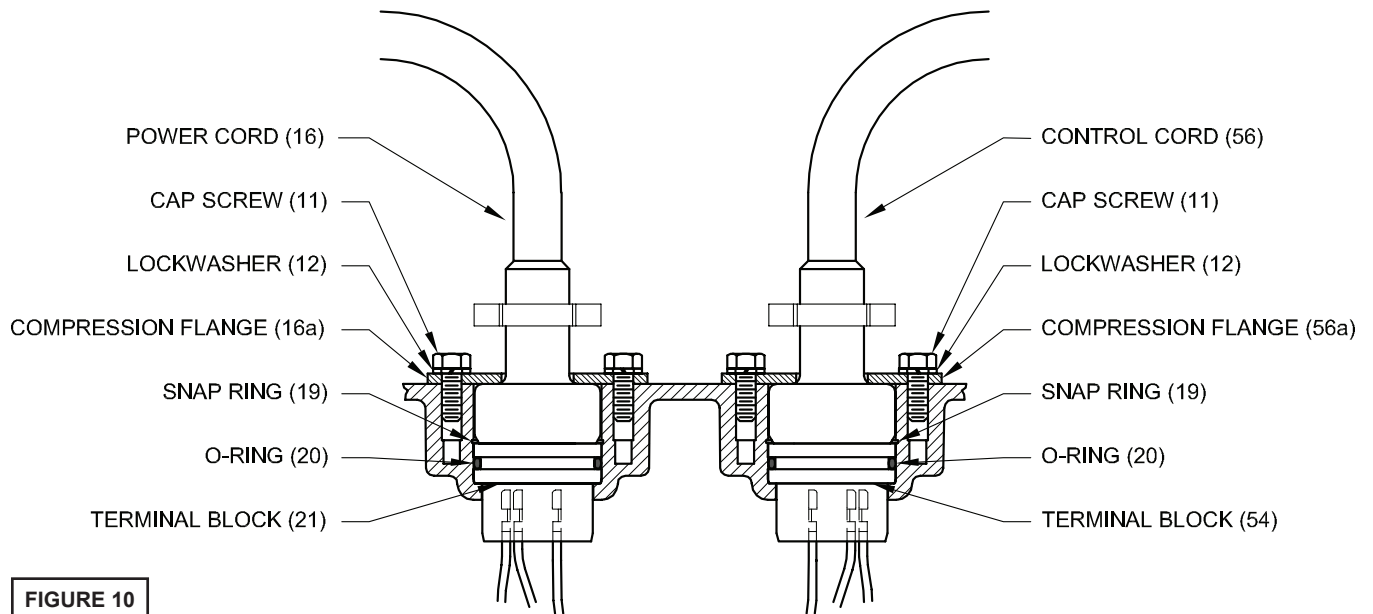

FIGURE 10
Check power cables (16) and control cable (56, if used), for cracks or damage and replace if required (see Figure 10). Make internal wiring connections which are independent of the terminal block as shown, using connectors (48) and wire assemblies (49) as required. Do not use wire nuts. Slip motor leads and ground wire through fiberglass sleeve. Lower motor housing (6) down onto seal plate (5) while aligning holes and stringing motor leads through the cable entry bore(s). (Slipping cords inside a 1 ft. length of .5" conduit makes this easier). Place socket head cap screws (47) through seal plate (5) into motor housing (6) and torque to 60 in-lbs. Reconnect motor and optional control leads to the underside of the terminal block(s) (21), (54 optional) as shown in Figure 12. Note that the pins are numbered underneath the terminal block. Place o-ring (20) into groove in terminal block and lubricate with dielectric oil. Press the terminal block (21) into the housing so it seats completely below the snap ring groove. Place snap ring (19) into groove in cable entry bore of housing. Repeat